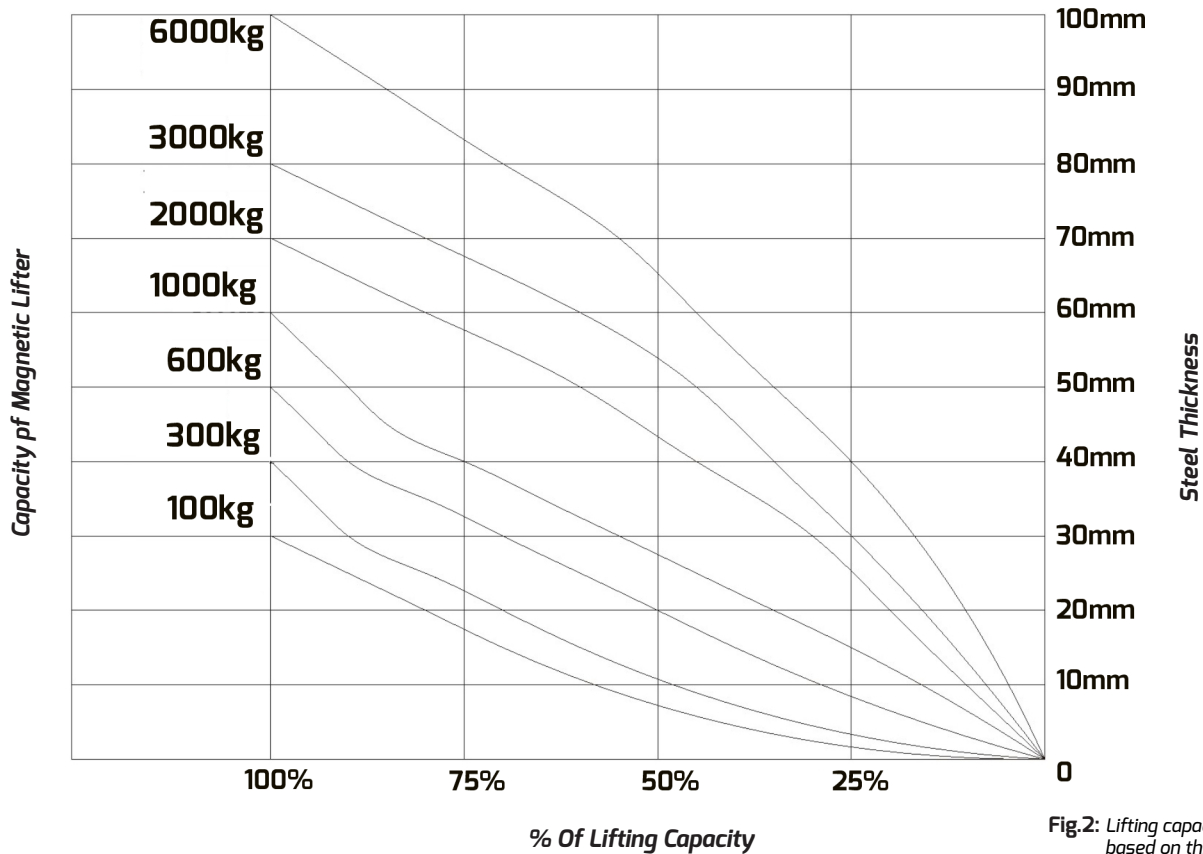

Fig.2: Lifting capacity adjustment based on thickness of steel
- **Material Thickness:** The thickness of the steel plate (see steel thickness graph below: **Fig.2** below and detailed in **Fig.3** page 6).